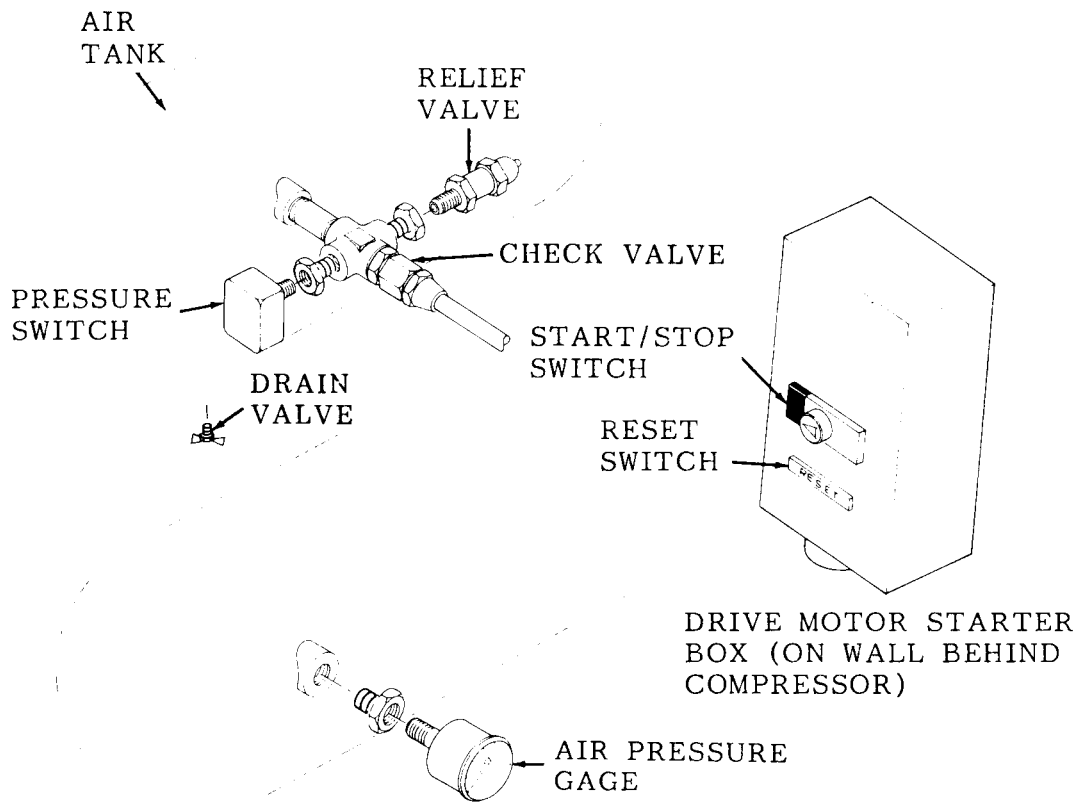

Figure 2-3. Air Compressor Drive Motor Control and Air Receiver Tank Pressure Gage.
- p. Air Pressure Gage. The gage (fig. 2-3) shows the amount of air pressure in the shop set air system. During normal operation, it should read between 125 psi and 150 psi.
- q. Relief Valve. The relief valve (fig. 2-3) is a safety device to protect the air system and personnel if a malfunction occurs that will cause the pressure in the air system to exceed a safe working pressure. The relief valve will open to let the air pressure escape from the system when air pressure of 180 psi is reached.
- r. Pressure Switch. The switch (fig. 2-3) is a pressure-operated electric switch that automatically starts and stops the air compressor to maintain a minimum of 125 psi and a maximum of 150 psi.
- s. Start, Stop, and Reset Switch. The switches (fig. 2-3) are used to start and stop the air compressor system. The reset switch will automatically disengage when a mechanical or electrical malfunction occurs in the air system that causes the electrical circuit to be overloaded.